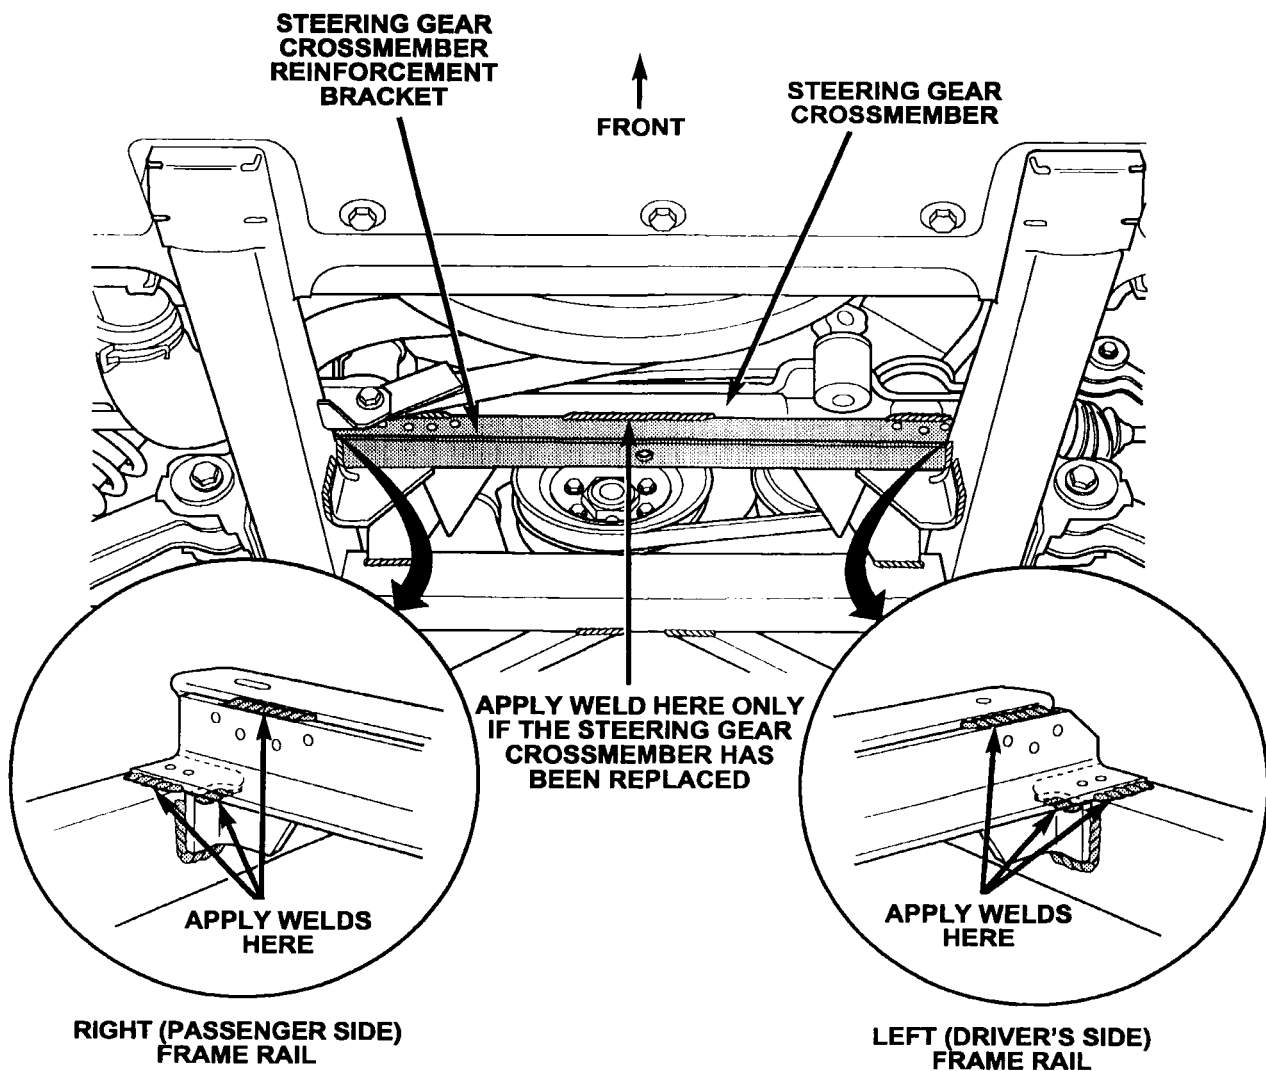

Figure 9
5. Place the steering gear reinforcement bracket into position, just in front of the steering gear crossmember and on top of the frame rails (Figure 9). The reinforcement bracket must be centered between the frame rails.
6. Mark all of the locations on the steering gear crossmember, frame rails and reinforcement bracket where welding will be performed with a grease pencil (Figure 9).
10. Tack weld each side of the reinforcement bracket to the frame rail (Figure 9).
12. Weld the reinforcement bracket to the frame rails and steering gear crossmember as shown in Figure 9.
NOTE: Vehicles that have had a new steering gear crossmember installed must have an extra weld applied as shown in Figure 9.